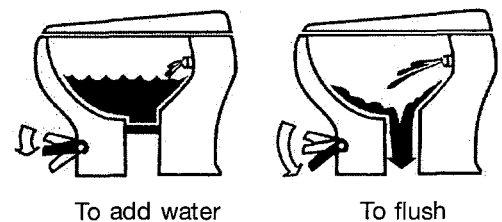

Figure 4.5
- 1 Push the foot pedal half way down (on the left in **Figure 4.5**).
Push the foot pedal all the way down (on the right in **Figure 4.5**) until the contents of the bowl are expelled. The water refills to the pre-set level.